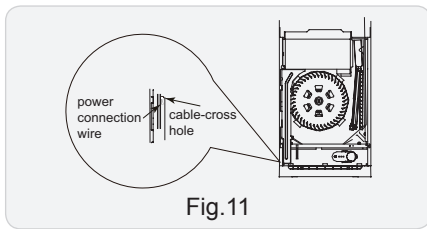

Fig.11
(1) Make the power connection wire go through the cablecross hole of indoor unit(As show in Fig.11)